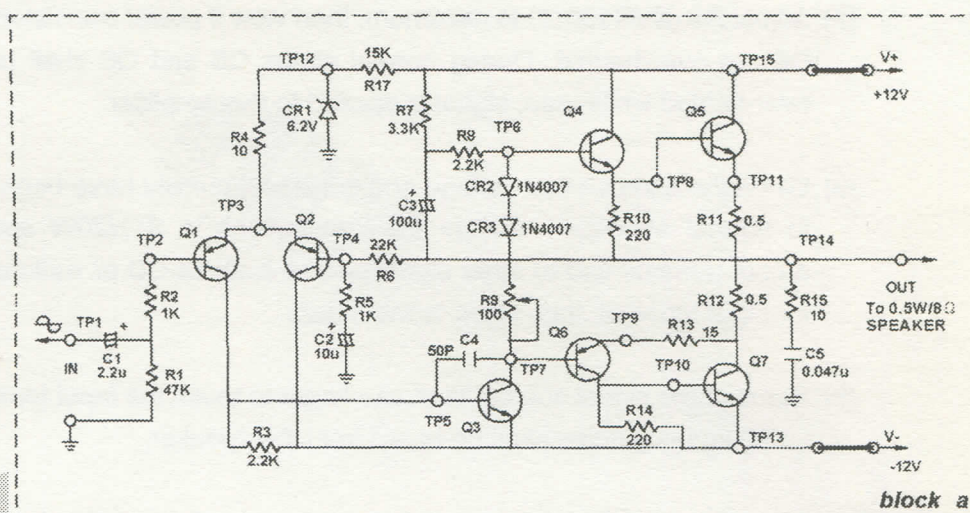

Fig 9-6 (Fig 23007-block a)
- (1) Insert the short-circuit clip by referring to Fig 9-6 and the short-circuit clip arrangement diagram 23007-block a, then connect A $8\Omega/20W$ resistor as the load.
- (2) Connect the ammeter to the input terminal for power supply to measure the quiescent current, with polarity shown in Fig 9-6.
- (3) Connect $\pm 12V$ as the power supply, then adjust R9 (SVR 100Ω) so that the quiescent current will approach to 20 mA, then measure the voltage at Tp14 (the middle-point voltage) which shall be within $0V \pm 0.5V$ during normal condition. If the middle-point voltage has exceeded $\pm 1V$, watch out if the quiescent current is too large (during useless adjustment) and the transistor is over-heated. If yes, The power supply shall be turned off to check the circuit. Referring to the description for principle, the circuit check can be carried through the following steps: ① Ohmic test -- Check if there is any short circuit in each transistor. ② Static test -- Connect the power supply, then measure the values of V_{be} and V_{ce} of each transistor, wherein these values shall be used to judge the status of each transistor after the power supply has been connected. (Please refer to the principle description in Chapter 6 -- Transistor Amplifier.)
- (4) After the middle-point voltage and quiescent current have been normal, connect signal generator and oscilloscope in the input terminal (IN), and connect oscilloscope to the output terminal (OUT). Adjust the signal generator to 1KHz sine wave and gradually increase the output voltage of signal generator so that the oscilloscope can display maximum non-distorted waveform of this amplifier output.
- (5) Use oscilloscope to measure the waveforms of each test point, then view each waveform.
- (6) Adjust R9 (SVR 100Ω) to minimum, then view if crossover distortion is generated in the waveform of Tp14.
- (7) Adjust R9 (SVR100 Ω) to maximum, then view if power transistors Q5 and Q6 are over-heated. During normal status Q5 and Q6 shall be slightly over-heated while input signal is applied to this amplifier.
- (8) When the middle-point voltage and quiescent current have been adjusted to normal condition, change the connections to 8 Ω /20W speaker for output terminal and to other signal source such as CD or walkman ... etc. for input terminal, then listen to the music.
- (9) Remove the signal source, then use finger to touch the input terminal, and low-frequency noise shall be heard from the speaker.
9-6 : OCL AMP as shown in Fig 9-6.